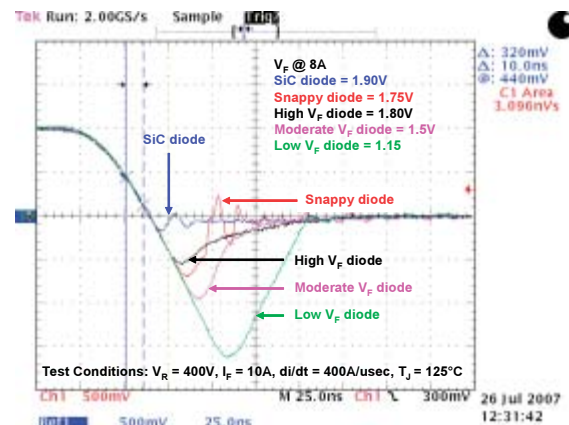

Figure 1: Reverse recovery mechanism of different diode technologies
properly for the application, the diode parameters can increase the turn-on losses for the IGBT or MOSFET and even for the diode itself. Snappy diodes as shown in figure 1 will increase the EMI in the circuit and also can destroy themselves as well as their co-pack IGBT switch in inverters (motor drive, UPS and solar inverter) during reverse recovery. The performance of P-i-N diodes has been continually improving as a result of new simulation tools to optimize structure. Maximizing operating frequency requires faster and faster diodes. In silicon technology, diodes have been optimized for different applications and these minority carrier silicon diodes are categorized as follows.
Figure 1 shows the comparison of reverse recovery and V_F of some of these 600V different technology silicon diodes and also silicon carbide (SiC) Schottky diode too.
Another PFC known as discontinuous current mode (DCM) is used at very low power level where the diode recovery problem is not there and control is also simple. However the increased input pulse current increases EMI and the system can become unstable at light loads. This needs an oversized boost switch since R.M.S current is high due to higher peak current. Ripple current stresses the filter capacitor. There is no diode recovery problem so a low forward voltage (VF) drop diode can be used. Fairchild’s low VF Ultrafast™ and moderate VF Hyperfast™ diode will be good choice for this application. However low VF Ultrafast™ diode has high QRR and TRR and can not be recommended for hard switched applications. The disadvantages of DCM PFC can be over come by CCM boost converter where boost diode and boost switch generally operate in the hard-switching mode. The drawback of hard switching is that the diode reverse recovery characteristics increase the switching device’s turn-on loss and the generated EMI. The diode’s reverse recovery characteristics describe how the device transitions from the forward conducting state to the reverse voltage blocking state. If the return of the reverse recovery current from IRRM to zero is too snappy as shown in figure 1, high voltage spikes and severe EMI are generated. Slowing down the switch turn-on rate increases the switch turn-on loss. Adding soft switching circuitry adds to circuit cost and complexity. However, with